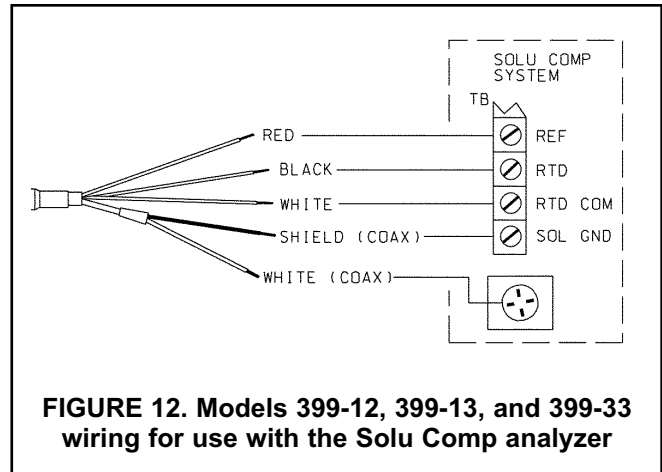

**FIGURE 10. Warning Label**
**7.0 WIRING.** The Model 399 has an optional built-in preamplifier and comes standard with a shielded cable or coax cable. The cable should be handled carefully and kept dry and free of corrosive chemicals at all times. Extreme care should be used to prevent it from being twisted, damaged or scraped by rough, sharp edges or surfaces. The cable is supplied undressed. Please refer to Figures 10 through 28 or the applicable analyzer/transmitter instruction manual for electrical connections.